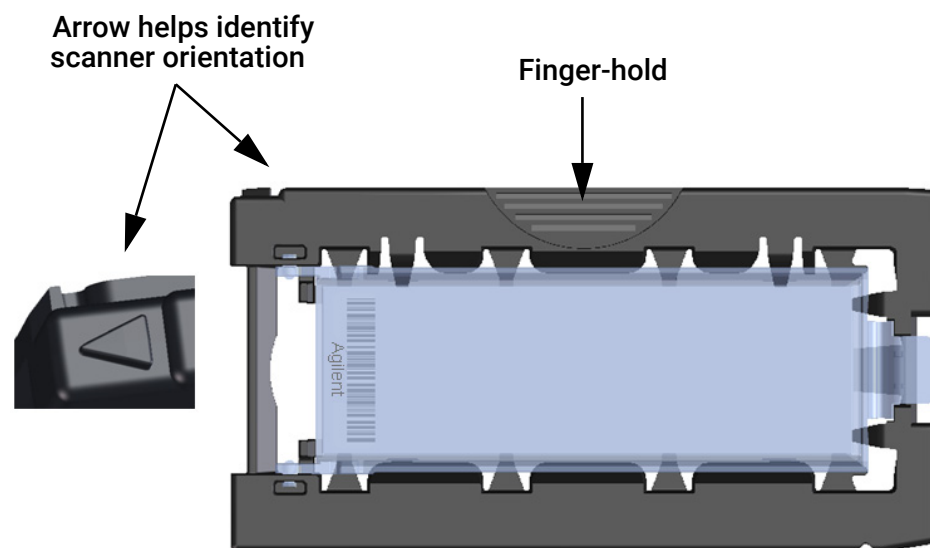
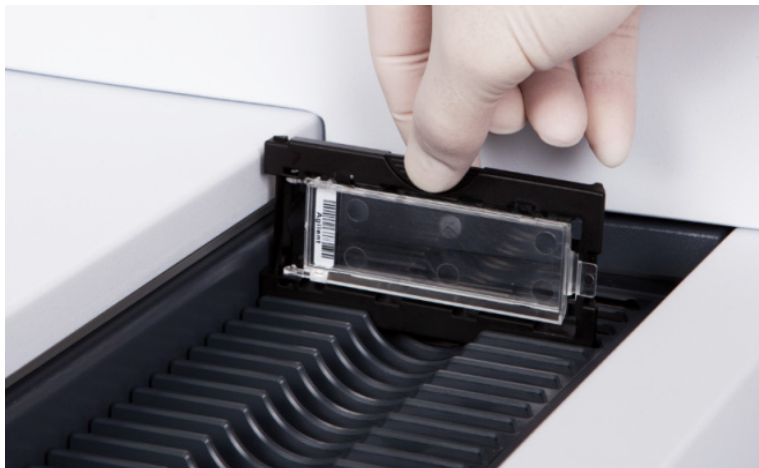

Figure 21. Slide holder helps you to insert slides correctly
Figure 22. Inserting slide holder into cassette
- 1 Put assembled slide holders into the scanner cassette. Refer to **Figure 21** and **Figure 22**.